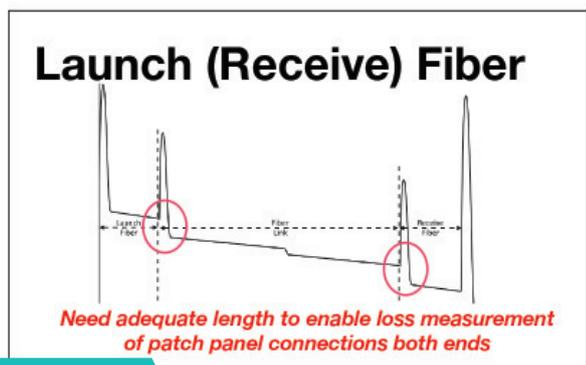

Figure 5.
- This setting can be left on the default of AUTO, unless performing a specialized test to optimize resolution or range. (See Figure 5.)
Measure the length of the launch and receive fibers and enter that value exactly. This is recommended to ensure trace consistency and accuracy. (See Figure 5.)